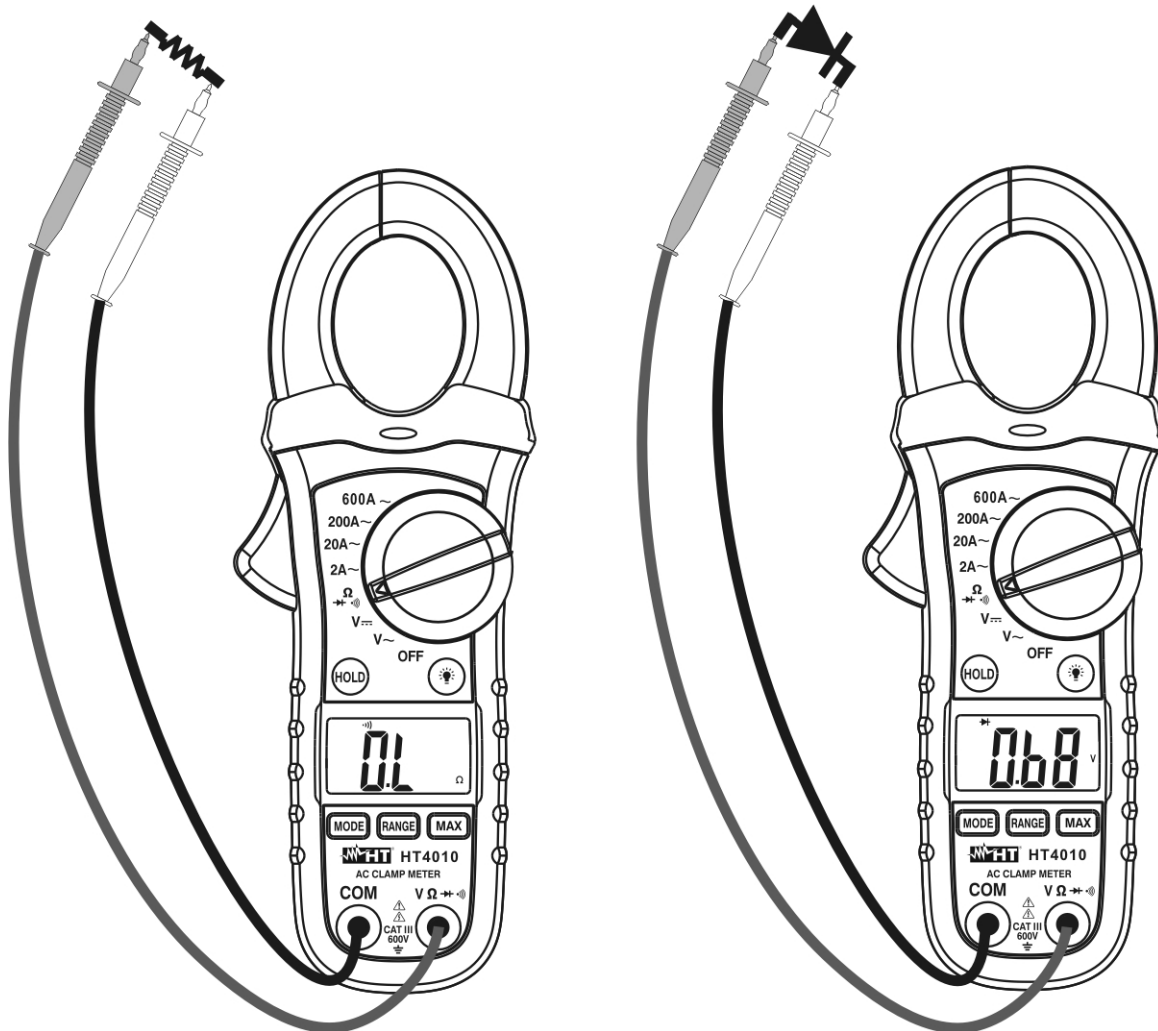

Fig. 6: Taking continuity test and diode test
3. Insert the red test lead plug into $V\Omega \rightarrow \text{diode symbol}$ jack and the black test lead plug into **COM** jack and perform continuity test on the object on test (see Fig. 6 – left side). Buzzer emits sound if the measured resistance value is less about 150Ω
5. Connect the red test leads to the anode of diode on test and the black test lead on the cathode ones (see Fig. 6 – right side). The correspondent threshold voltage of P-N junction is showed on display